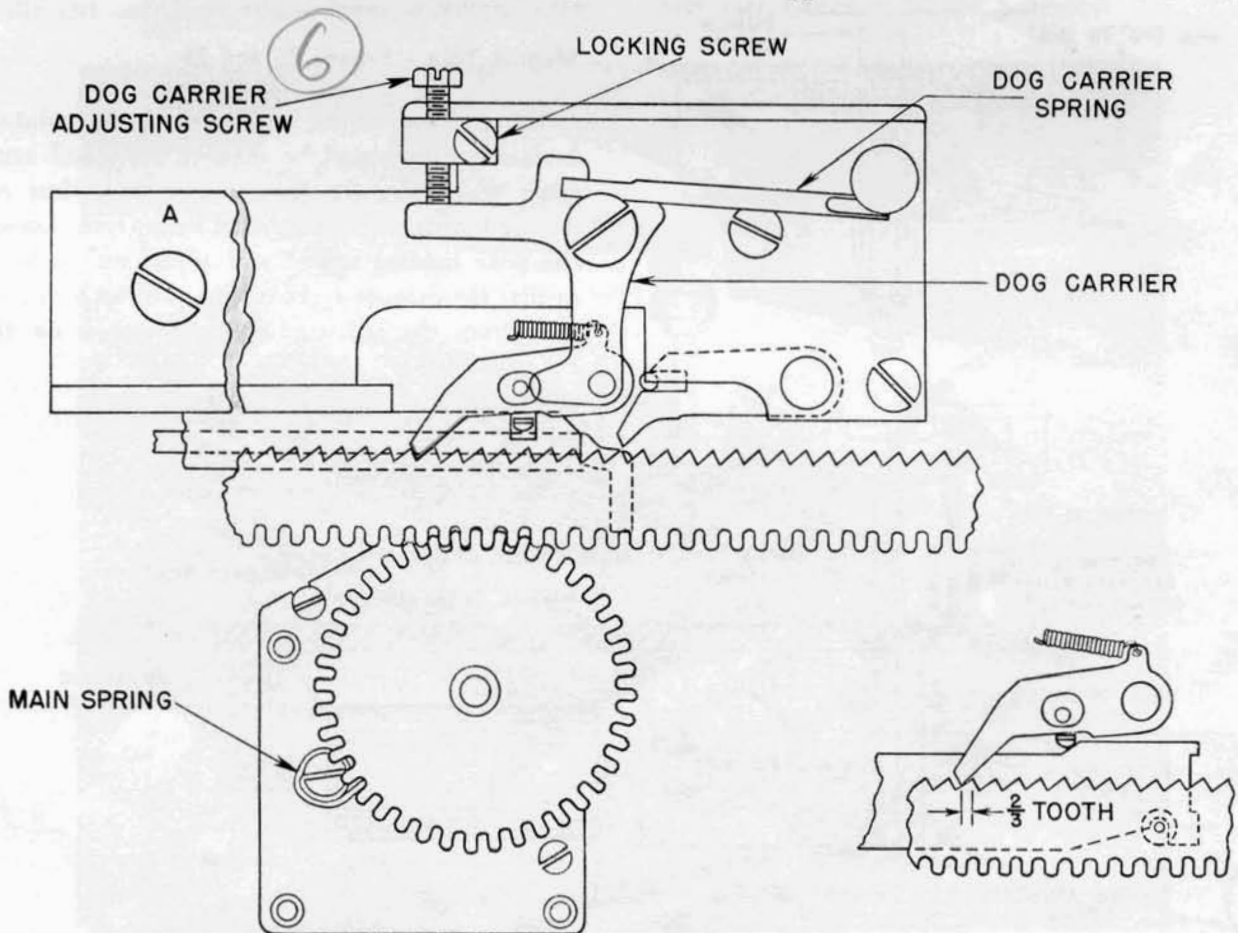

Figure 24
Main Spring - Figure 24
Dog Carrier - Figure 24
Skip Lifter Position - Figure 24
thirds of the way down on the tooth (inset, Figure 24). The skip lifter is supported in the release bar guide; therefore, to obtain the adjustment, it is necessary to shift the key assembly at the rear, because the release bar guide is supported by the key assembly. The screw in the rear end of the interposer guide comb, right (A, Figure 24), passes through an oversize hole in the rear cover. It is, therefore, possible to shift the key assembly slightly. The screw used in this position must have a large head with a flat underside, so the adjustment will not change when tightening the screw. Before adjusting the position of this unit, it is necessary to loosen the three screws holding the key assembly to the base at the front.
- 6 - Dog Carrier Adj. Screw. See Fig.24 Adjust so that the rack only very slightly moves with changing dog and escapement.